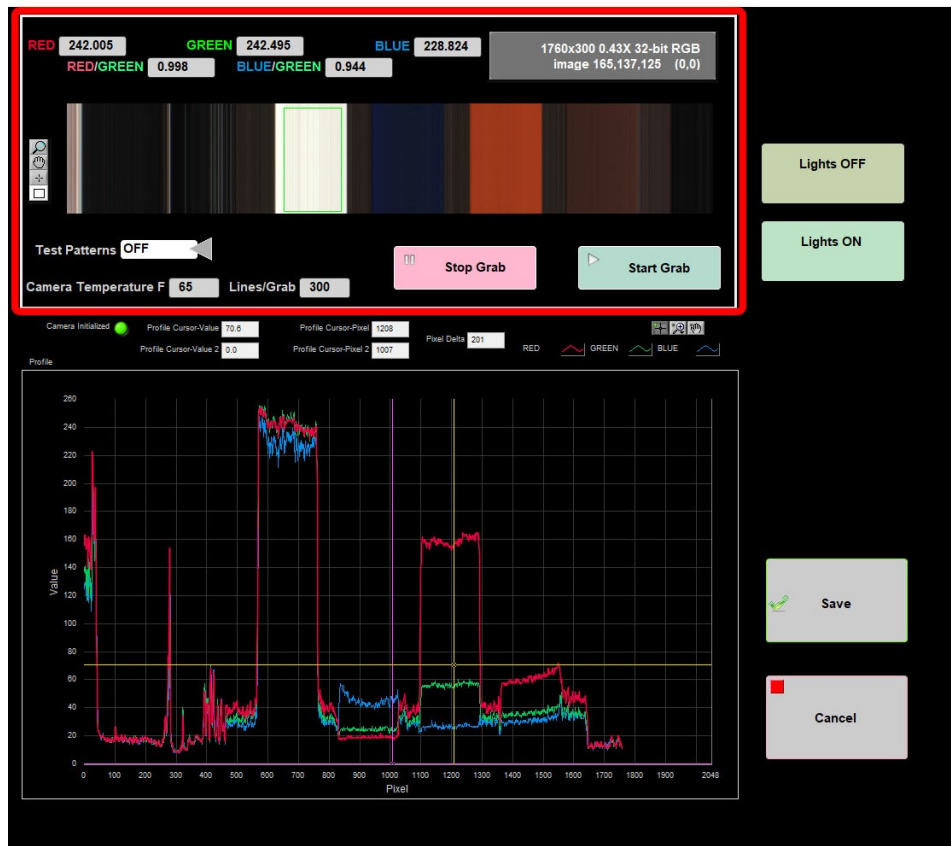

Figure 42: The grab window is highlighted in red. A green square is drawn in the white color square of the appropriate row.
7. Move the camera over the Macbeth color standard until you see the white, dark blue, orange and brown color bars in the image. Place the cursor in the white square, right-click and draw a rectangle by dragging diagonally. Release the mouse when you have selected most of the white bar. The rectangle (marked in green) should only have the white color and nothing else inside (Figure 42).